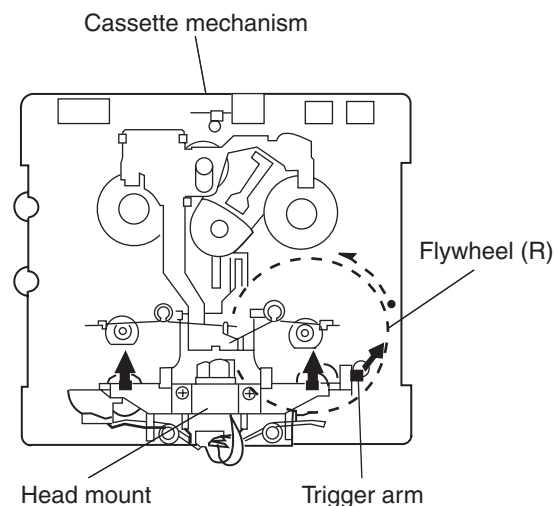

Fig. 1
### ■ Removing the playback / recording & eraser head (See Fig. 1 ~ 3)
1. While shifting the trigger arms seen on the right side of the head mount in the arrow direction, turn the flywheel R in counterclockwise direction until the head mount has gone out with a click (See Fig. 1).